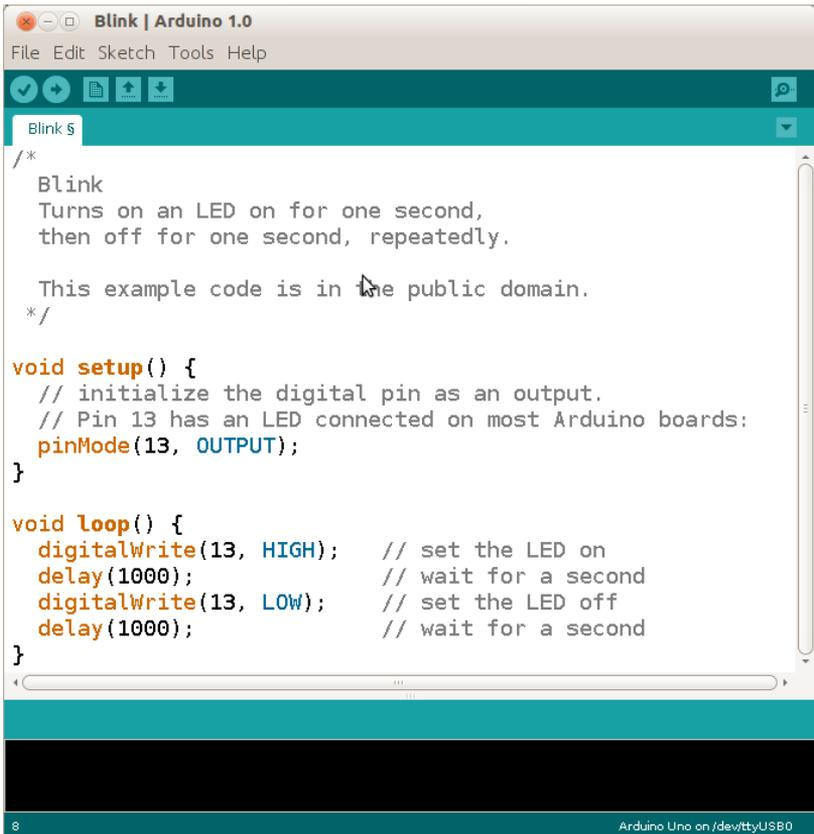

Figure 2-7. The Blink example, shown loaded in the Arduino IDE
3. Open Blink from File → Examples → 01.Basics → Blink (see Figure 2-7).